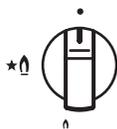

Fig.11
- To light the hob, push down the appropriate knob and turn anti-clockwise to the large flame symbol (Fig.11).